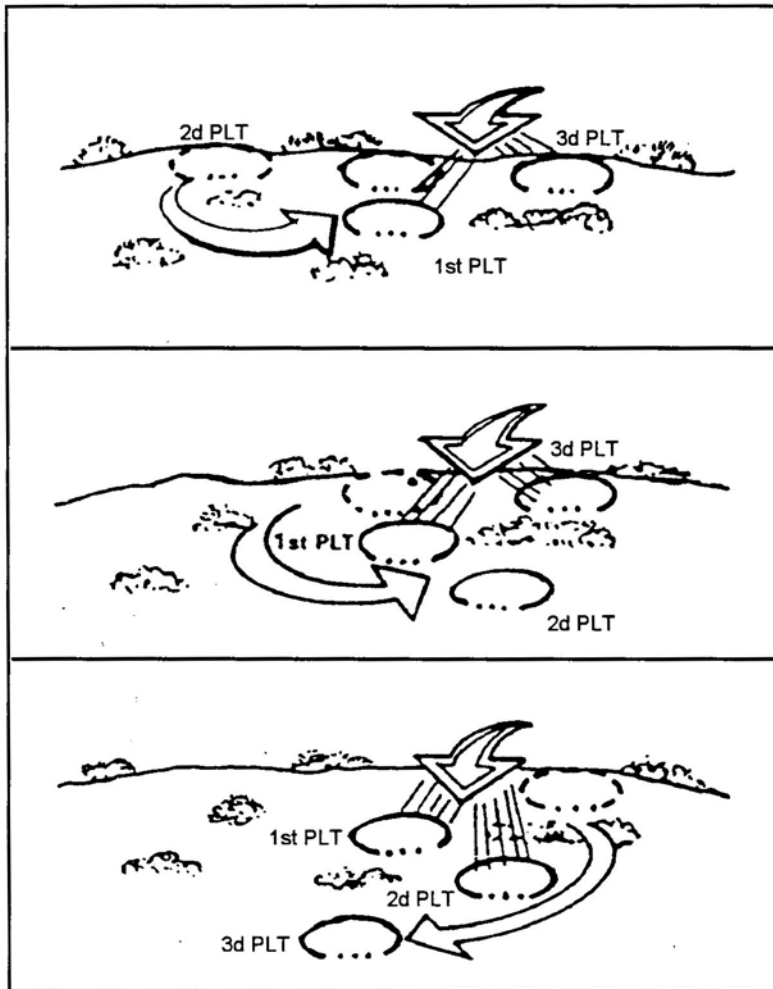

Figure 1. Withdrawal under pressure.
2. The company commander controls the sequence of withdrawal of the platoons. His decision on which platoon to withdraw first is usually based on where the enemy attacks and how heavily each platoon is engaged. Once the decision is made to withdraw, the company commander will normally order the least heavily engaged platoon to withdraw first. That platoon then disengages and moves to a position where it can overwatch the disengagement of the more heavily engaged platoons. The platoons then change roles and leapfrog to the rear using fire and maneuver. This leapfrogging continues until contact is broken or the company reaches a new defensive position (Figure 1).